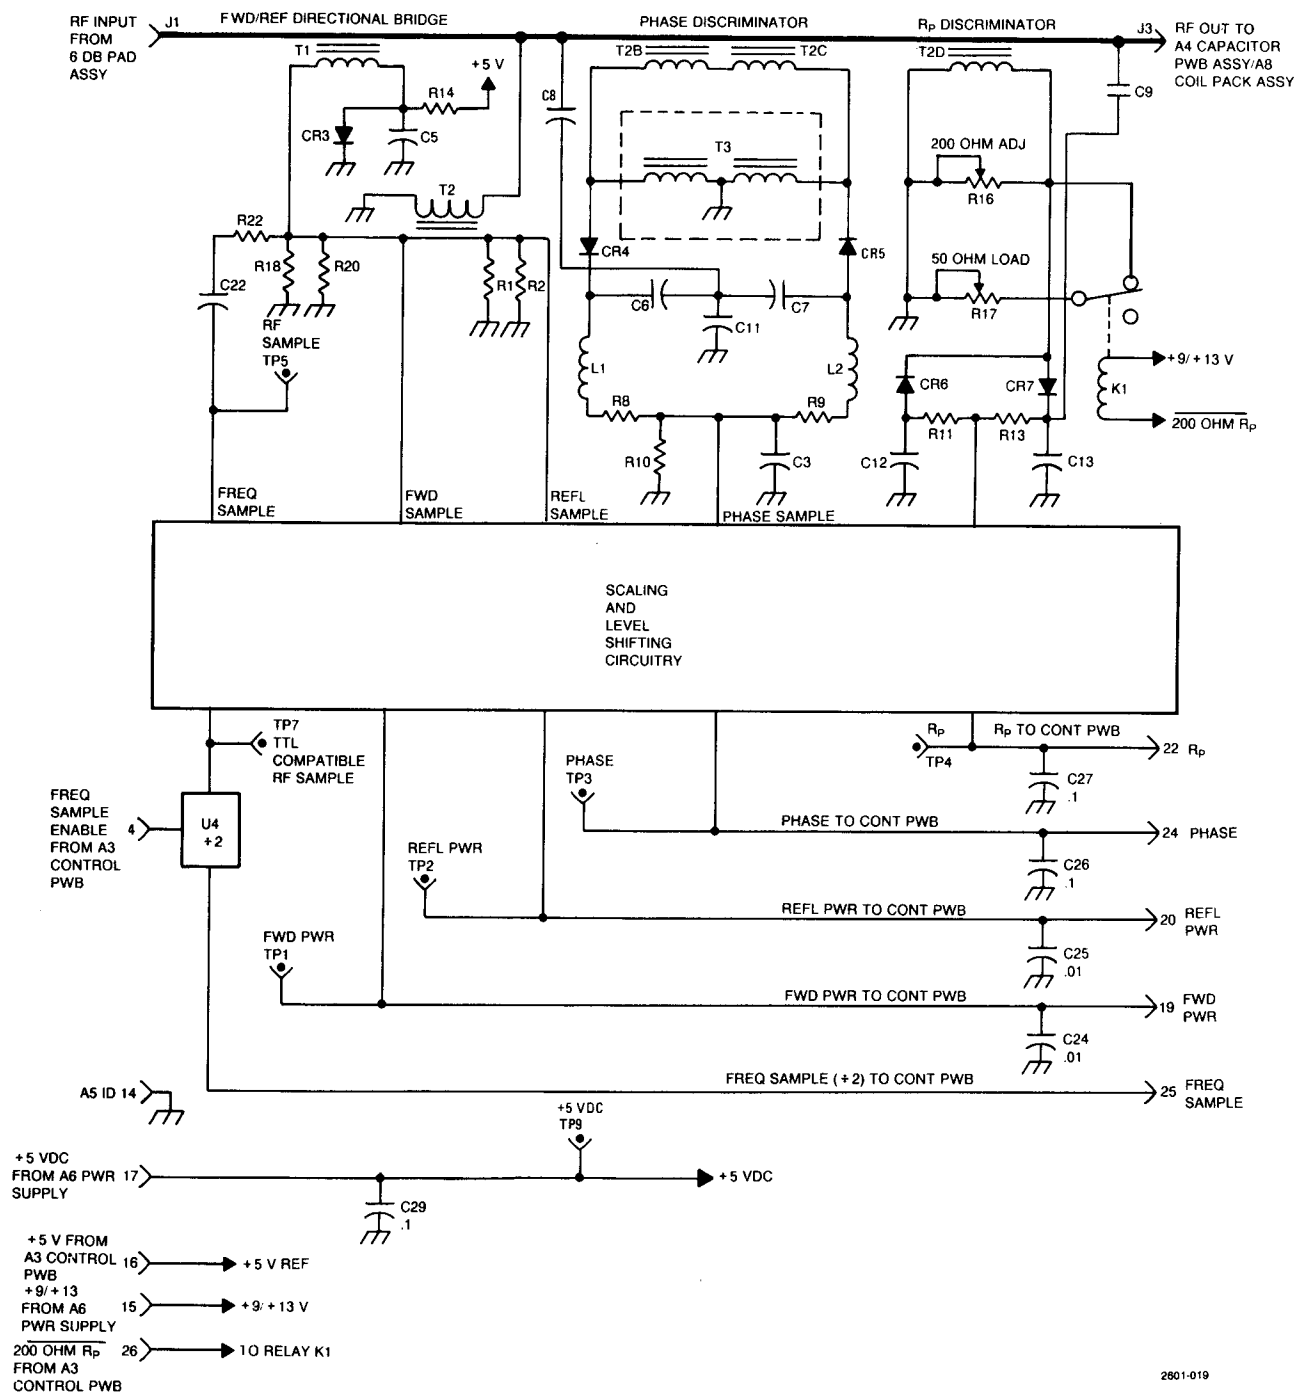

Figure 4-3. A5 Discriminator PWB Simplified Schematic Diagram
4.3.3 A5 Discriminator PWB Assembly (see figure 4-3)